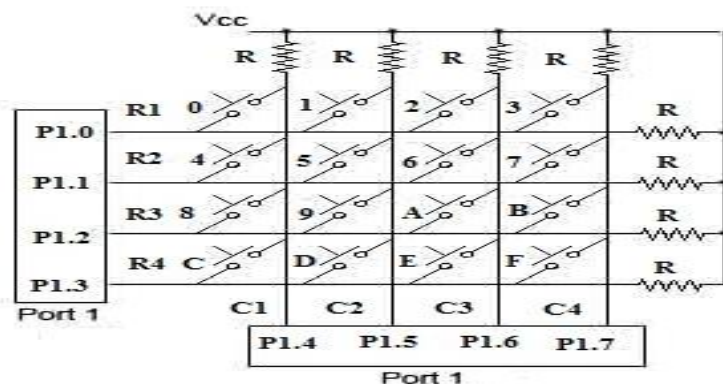

Figure 12.2: 89C51 connection to 4x4 matrix keypad
(Refer Figure.12.2)
8. Interface 4x4 keypad to microcontroller as per circuit diagram shown in Figure. 12.2
1. In Figure. 12.2 to detect the key press, which of the following is grounded?